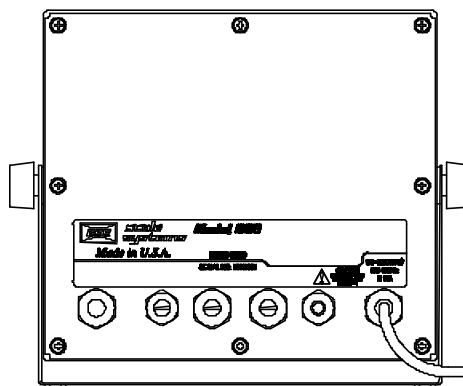

Figure 2-8: 660, 661 and 662 Rear Panel
3. Using a #2 cross-tip (Phillips) screwdriver or an 8mm socket, remove the eight 8-mm hex head screws from the rear panel (see Figure 2-8).